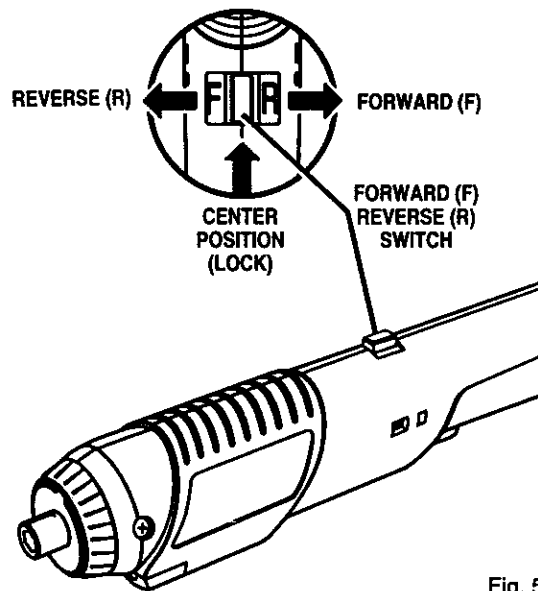

Fig. 5
See Figure 5.
- Lock switch trigger by placing the forward/reverse switch in center position. See Figure 5.